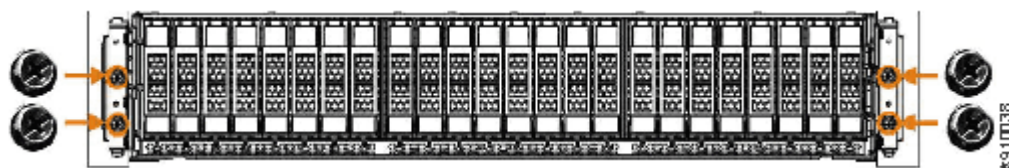

Figure 12. Securing the front of the enclosure
4. Secure the enclosure with screws in the rack mounting screw holes on each side of the enclosure. See Figure 12 on page 15.